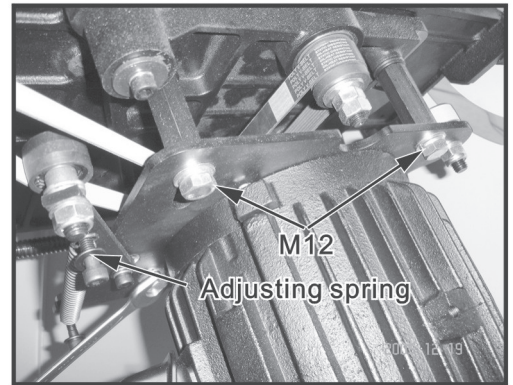

Fig. 51
4. Loosen the three M12 bolt (Fig.51)